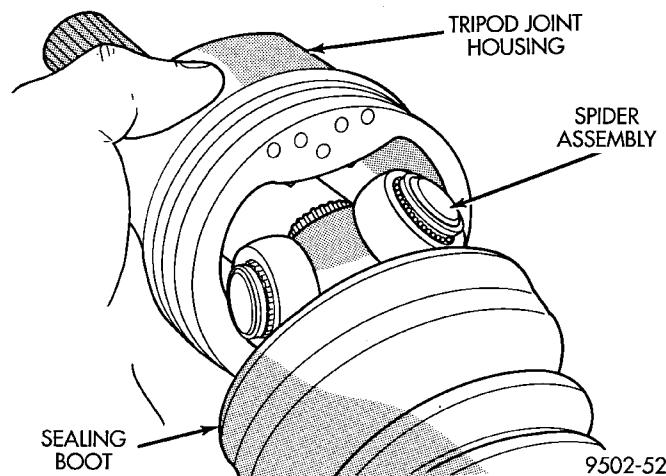

Fig. 34 Installing Tripod Housing on Spider Assembly
(5) Align tripod housing with spider assembly and then slide tripod housing over spider assembly and interconnecting shaft (Fig. 34).